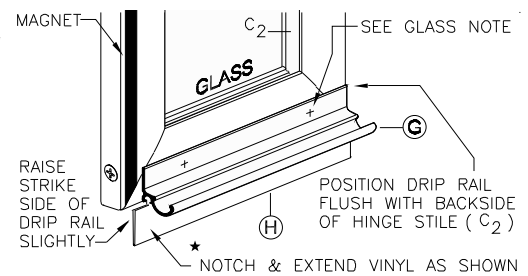
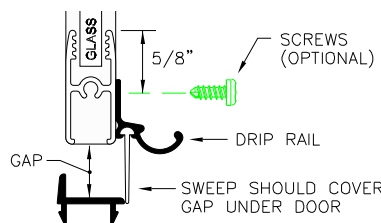
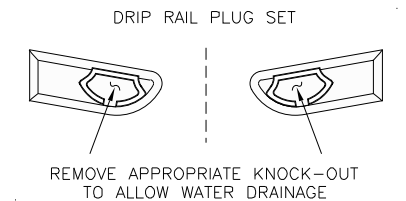

figure 6
figure 8
figure 7
8.*Notch and extend Vinyl Sweep (H) pass Drip Rail edge as shown in figure 6. Attach Drip Plugs (I) onto Drip Rail (see exploded view - sheet 1), be sure to remove the knockout on the hinge side drip plug so the water will drain (see figure 7). Clean bottom rail of door with alcohol to remove any oil. Failure to clean door rail prior to installation of Drip Rail (G) may cause tape to release. Remove backing from tape and position Drip Rail flush with backside of Hinge Stile (c2) as shown in figure 6. Sweep should cover gap at bottom of Door as shown in figure 8. Slightly elevate Drip Rail at strike side prior to securing to create a sloping effect.